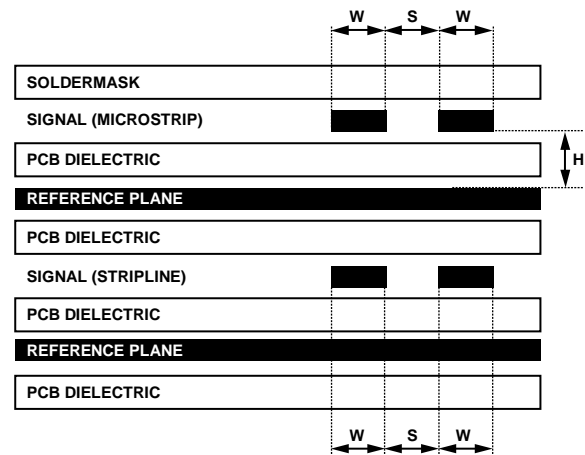

Figure 75. Example of a PCB Cross-Section
Route the high speed differential inputs and outputs with 100  $\Omega$  controlled impedance differential transmission lines. Reference the transmission lines, either microstrip or stripline, to a solid low impedance reference plane. An example of a PCB cross-section is shown in Figure 75. The trace width (W), differential spacing (S), height above reference plane (H), and dielectric constant of the PCB material determine the characteristic impedance. To minimize crosstalk, keep adjacent channels apart by a distance that is greater than three trace widths (3W).